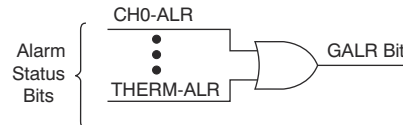

Figure 7-12. Global Alarm Bit
The device continuously monitors all analog inputs and temperatures in normal operation. When any input is out of the specified range, an alarm triggers. When an alarm state occurs, the corresponding individual alarm bit in the status register is set (1). The global alarm bit (GALR) in AFE configuration register 0 is the OR of individual alarms, see Figure 7-12. When the ALARM-LATCH-DIS bit in the alarm control register is cleared (0), the alarm is latched. The global alarm bit (GALR) maintains 1 until the corresponding error conditions subside and the alarm status is read. The alarm bits are referred to as being *latched* because these bits remain set until read by software. This design makes sure that out-of-limit events cannot be missed if the software is polling the device periodically. All bits are cleared when reading the status register, and all bits are reasserted if the out-of limit condition still exists on the next monitoring cycle, unless otherwise noted.